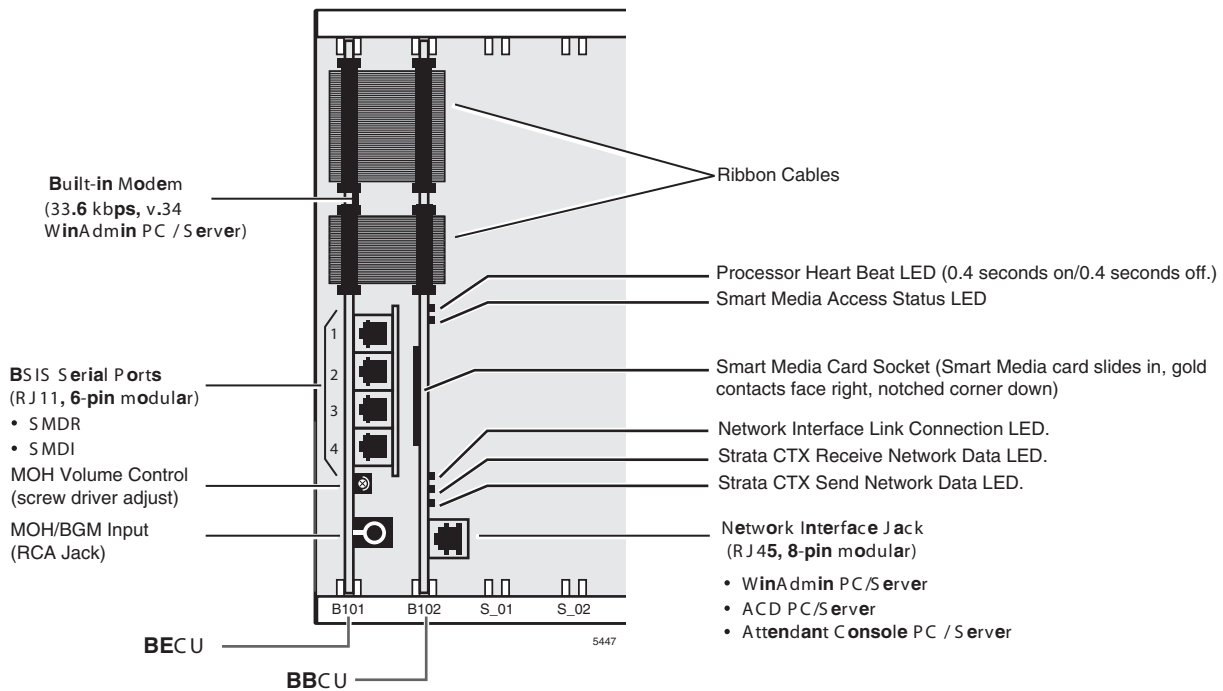

Figure 3-27 Processor PCB Connectors
9. Install the BECU in slot B101 and the BBCU in slot B102, then connect the two BECU ribbon cables to the BBCU, as shown in Figure 3-27.
11. Insert the BECU into the “B101” slot in the Base Cabinet (see Figure 3-27). Ensure the component side of the BBCU PCB is facing right when installing it in the Base Cabinet.
14. Insert the SmartMedia card (gold contacts face right, notched corner faces forward and down) into the slot on the BBCU Figure 3-27 and 3-28.